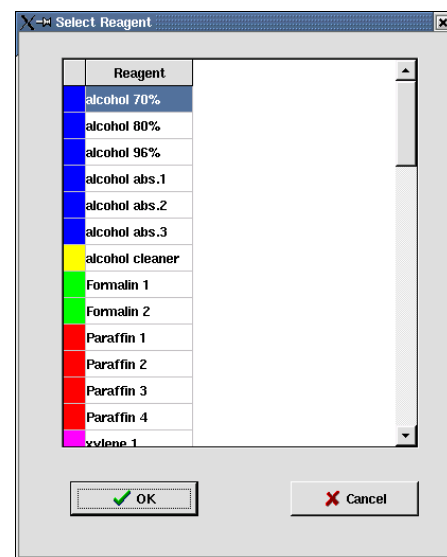

Fig. 50
- Click to an entry in the table to open a mask. Here a defined and existing reagent can be selected (fig. 50).